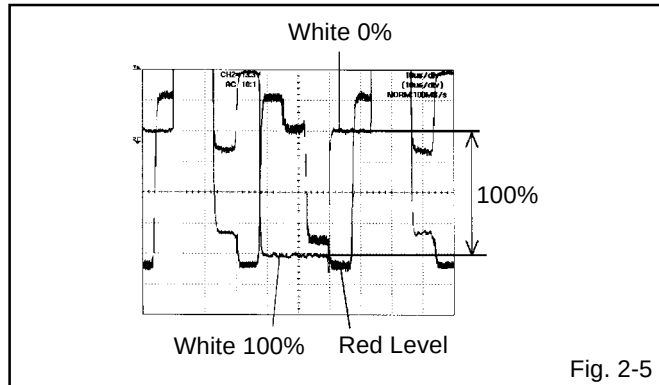

Fig. 2-5
6. Press the VOL. UP/DOWN button on the remote control until the red color level is adjusted to $110 \pm 5\%$ of the white level. **(Refer to Fig. 2-5)**